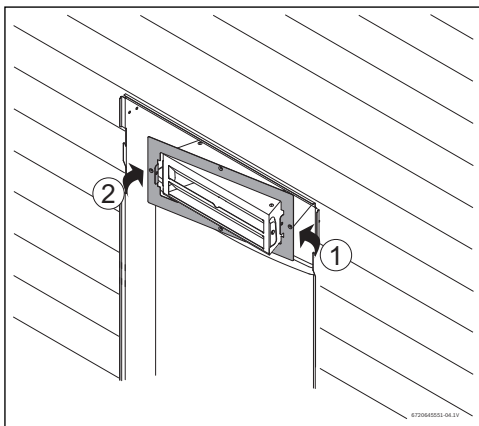

Fig. 16
- ▶ Tilt the frame on one direction, as showed in Fig. 16.